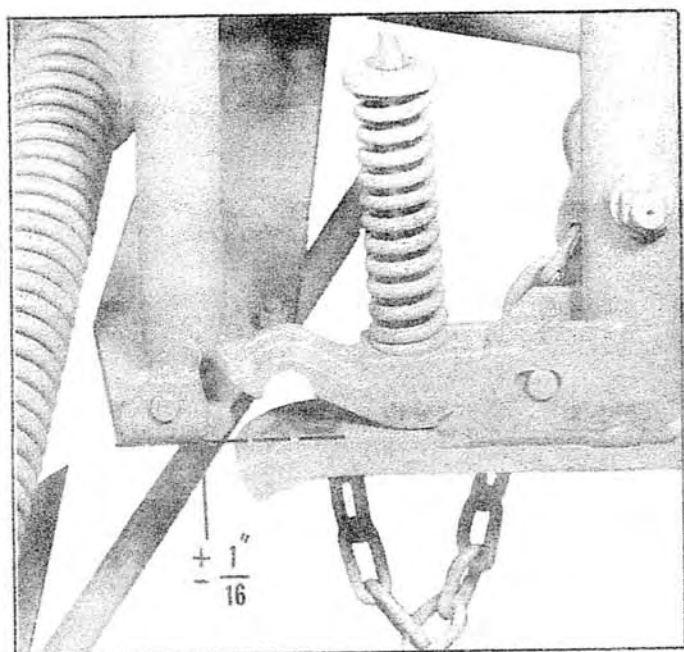

Fig. 39 - Aligning Safety Release
3. With the cutter bar in the "break back" position, move the cutter bar and frame forward as if to re-engage in the safety release catch (Fig. 39).
4. The flat underside member of the swing frame should be 1/16" above to 1/16" below the top surface of the safety release "U" beam, as illustrated in Fig. 39.